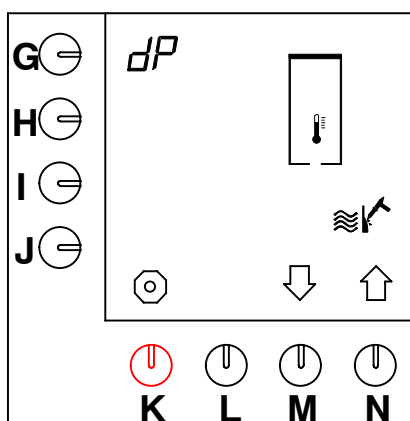

Fig. 21 Starting the descaling programme hot water system
- The descaling programme appears on the display (fig. 21).
- Hold down programming key (G.) until fig. 21 re-appears on the display.